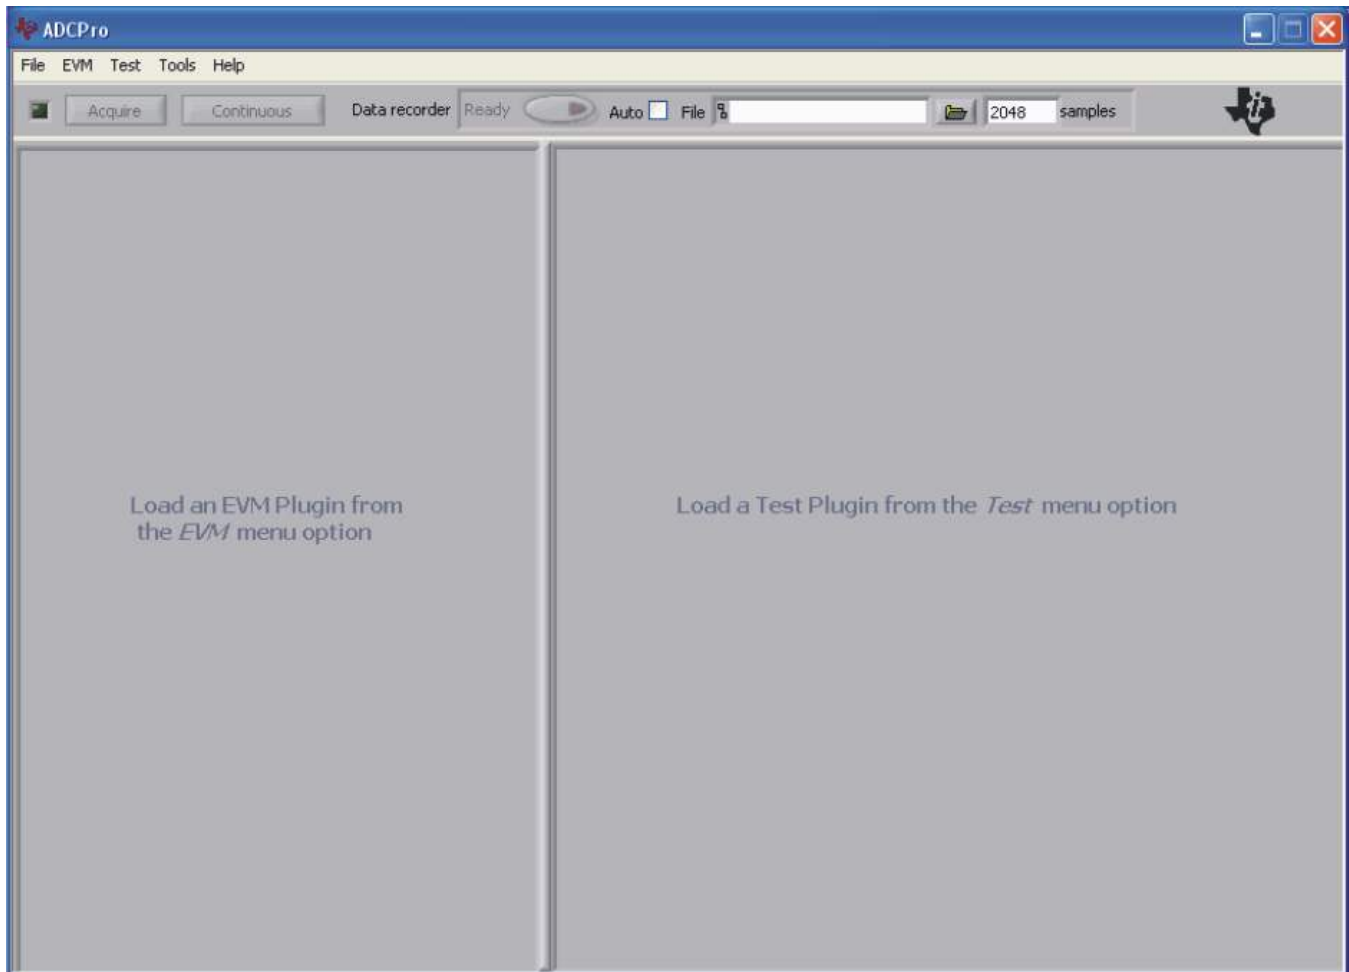

Figure 21. ADCPro Software Start-up Display Window
1. Start the software by selecting *ADCPro* from the Windows Start menu. The screen shown in Figure 21 appears.